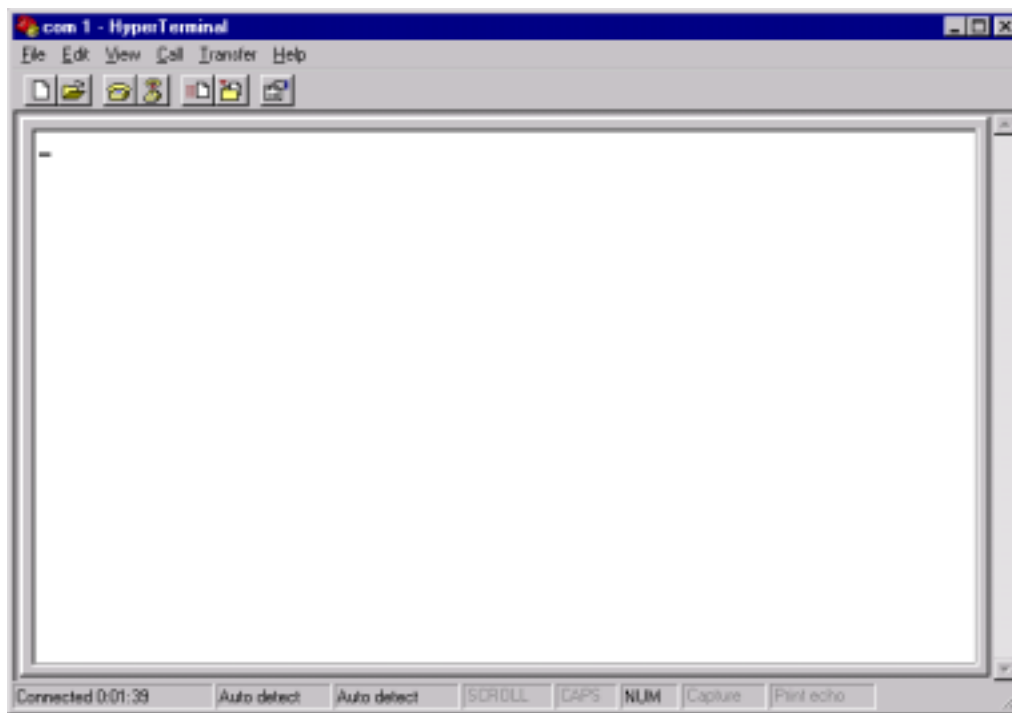

Figure 1-7
10. Turn on the autosampler and the HyperTerminal window (Figure 1-7) should display an **OK**.